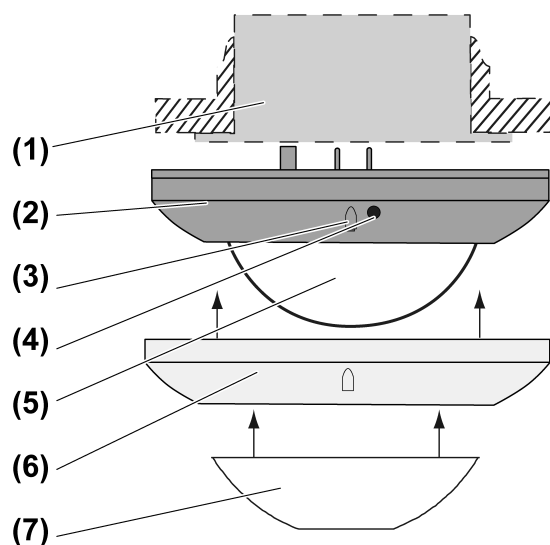

Figure 1: Device components
- Activate coupling mode: Press the **Bluetooth** ⌘ button (4) (Figure 1) for more than 4 seconds.